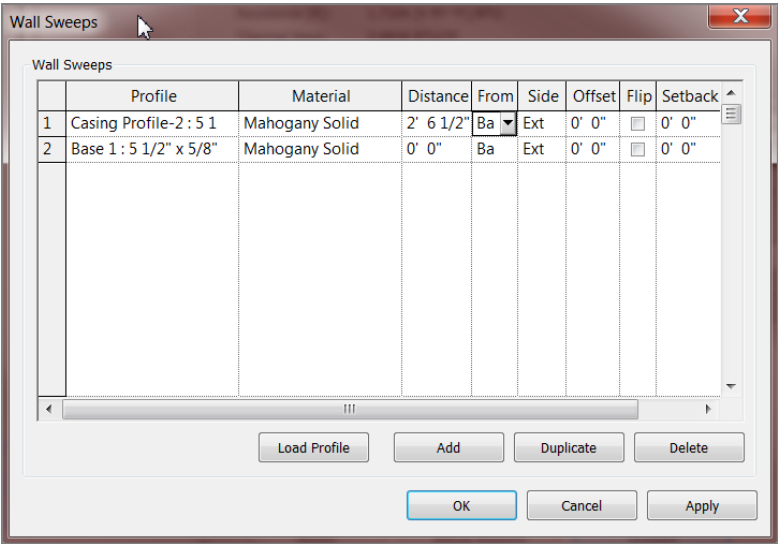

FIGURE 16.10: Configuring the two sweeps
20. In the Wall Sweeps dialog box, click the Add button, as shown in Figure 16.10.
- 26. Set Distance 2'–6 1/2" (775mm) from the base (see Figure 16.10).